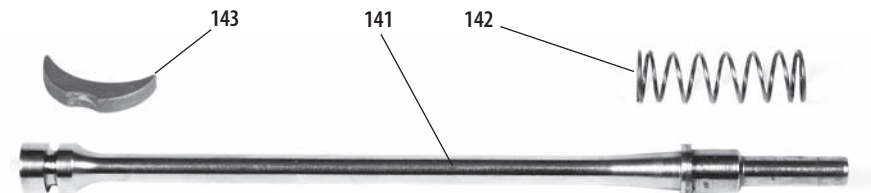

Fig. 7 **Piston with spring**
**Piston 141** (Fig. 7) transmits the kinetic energy of a portion of the powder gases produced by the combustion of the powder charge in the barrel to the bolt carrier. The front part of the piston has a cylindrical head with a circumferential groove for better packing of gases in the gas cylinder and for deposition of burnt powder remainders. The rear part of the piston is thickened and forms a guide for piston spring 142, whose one end is leaning against the face of the rear sight base recess and the other end has the collar which, together with the stop in the rear sight base recess, limits the piston forward motion. The transition of the cylindrical reinforcement into the guide part of the piston is of a conical shape; this conical surface limits piston motion by bearing against the corresponding surface of the rear sight base. The piston spring causes the piston to return from the rear position once again to the starting position (i.e. to the front position).